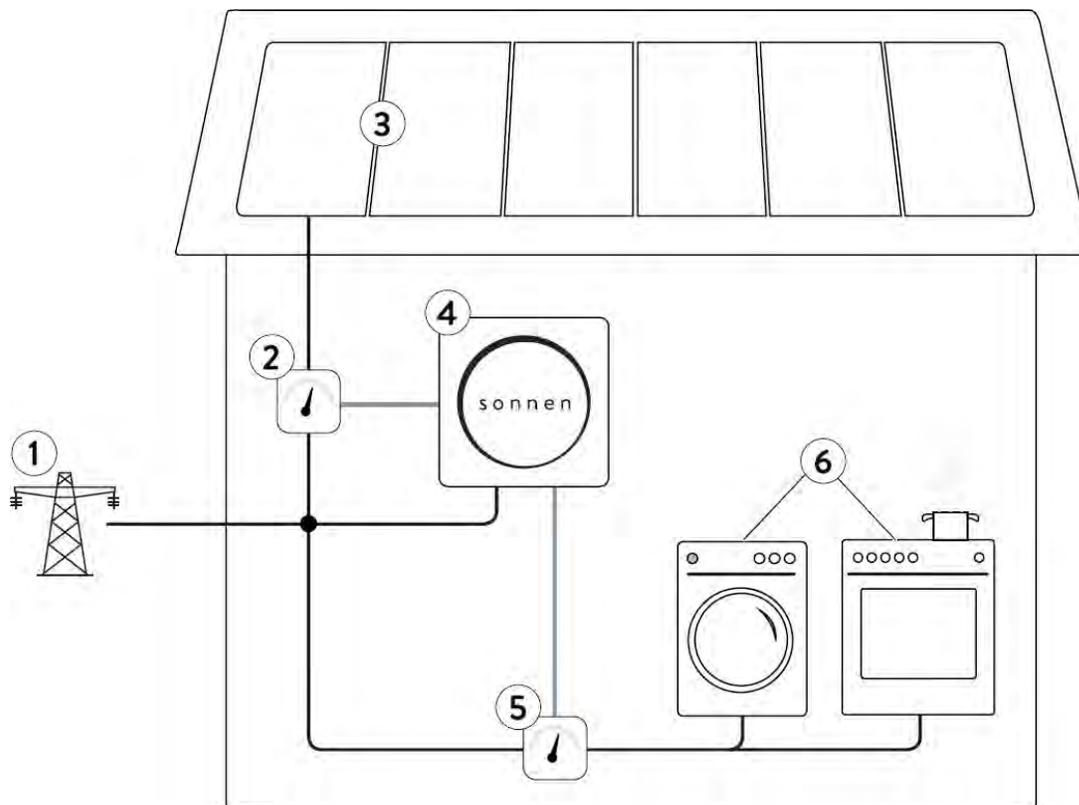
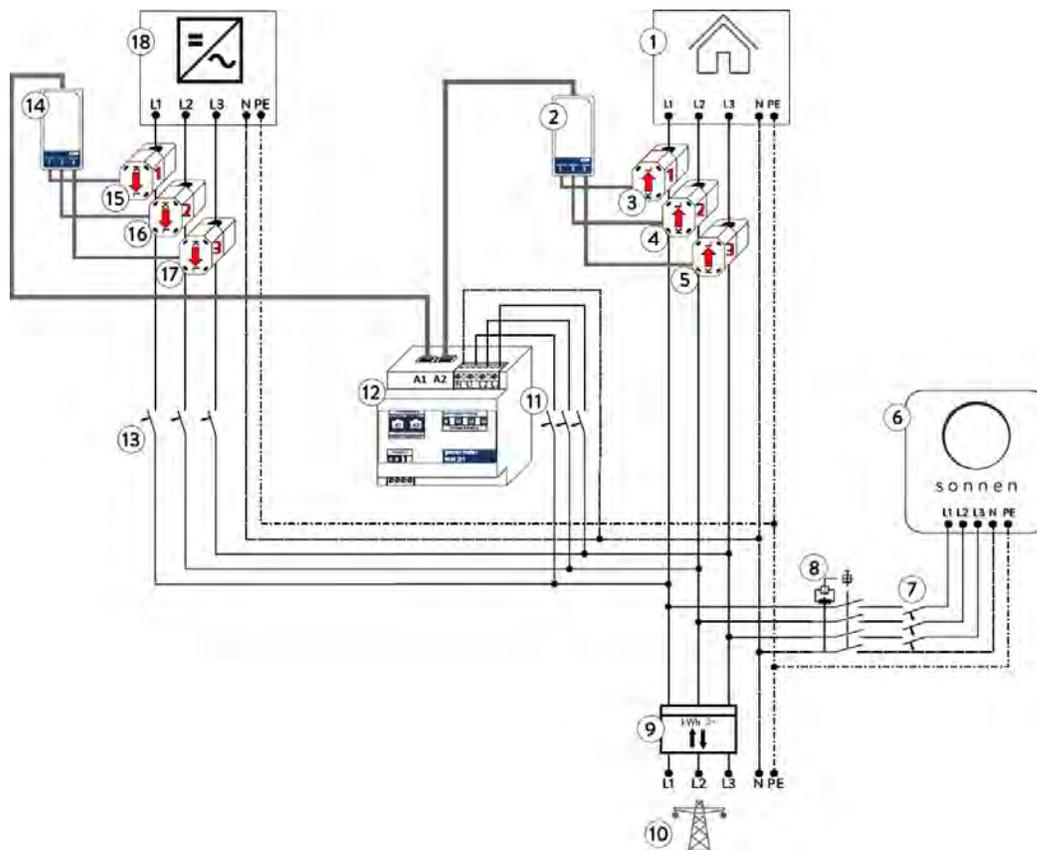

Figure 12:
Figure 13:
The storage system's power output and power consumption are configured in dependence on the charge level so as to minimize the energy exchange with the electrical grid and increase private or self-consumption. For this purpose, the consumption (Figure 12, (5); Figure 13, (2)) and output (Figure 12, (2); Figure 13, (14)) are measured.
4. Select the menu "Total, S, P, Q1 INST - 7.0" on the power quality meter (CO5127-1S). Refer, in particular, to Figure 13 on installing the battery storage device with a PV system.